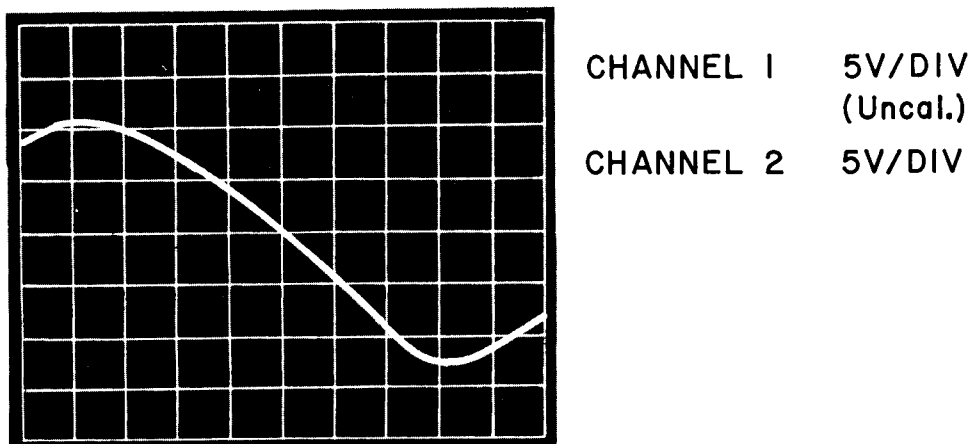

Figure 4-28. Wideband FM Discriminator Typical Response
- 16) Turn receiver off and adjust the pot on TC30059 fully counter clockwise before applying power to the receiver again. Increase the sweep generator F width to 5 MHz. Adjust (A1A9) L13 for maximum symmetry and L14 for a 21.4 MHz zero crossover. See **Figure 4-28** for a typical wideband response.